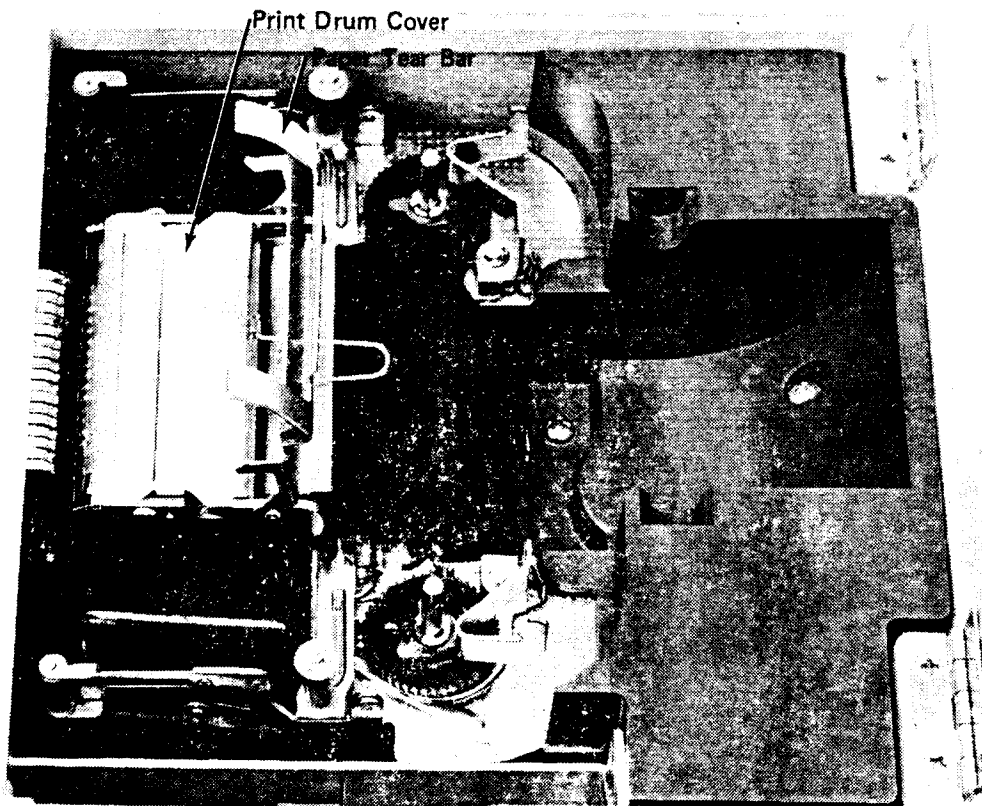

Figure 3-1. The Tear Bar and Print-Drum Cover
2. Lift the printer cover up and remove the paper tear bar and print-drum cover (see Figure 3-1) by pulling each device up until it releases.